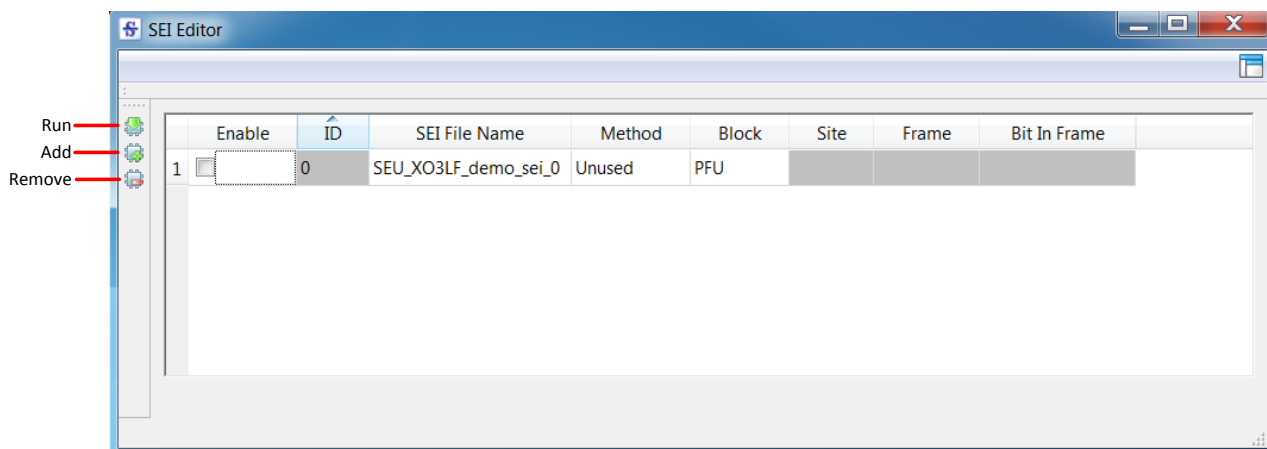

Figure 9.3. SEI Editor Tool
In the SEI Editor tool, there are options to Run, Add and Remove the SEI error bit as shown in Figure 9.3.
1. In the **Enable** tab, select the checkbox to select the row. See Figure 9.3.